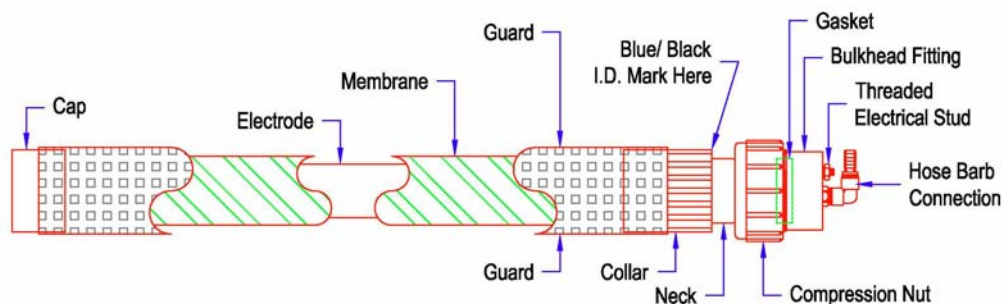

Figure 2
4. Adjust second wrench on body of Bulkhead Fitting (See Fig. 2.) turning opposite of Step 3.